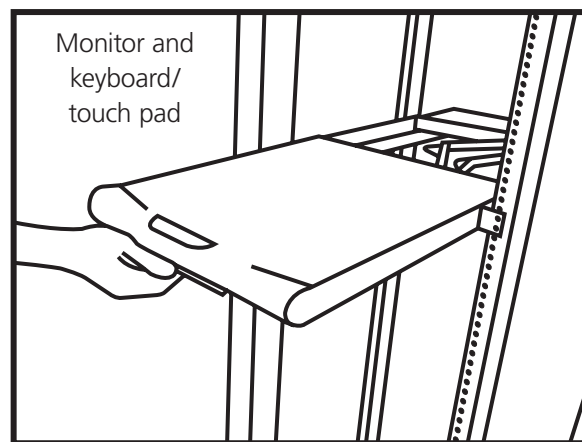

Figure 4-5. Pulling out the monitor and keyboard/touch pad together.
1. You can pull out the LCD monitor and keyboard/touch pad together. See Figure 4-5.
1. Pull the keyboard out as shown in Figure 4-5.